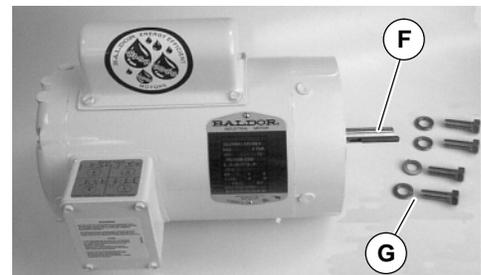
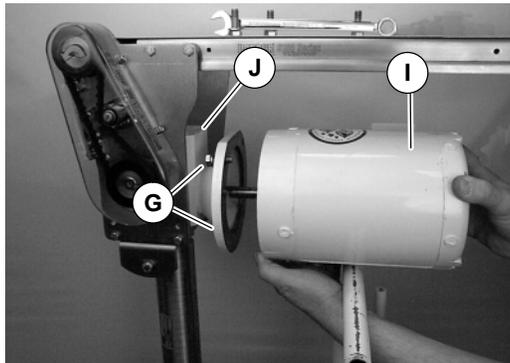

Figure 10
Figure 11
8. Install key (F of Figure 10).
9. Attach gear motor (I of Figure 11) to gear reducer (J) with screws and washers (G of Figure 10). Tighten to 32 ft-lb (41 Nm).